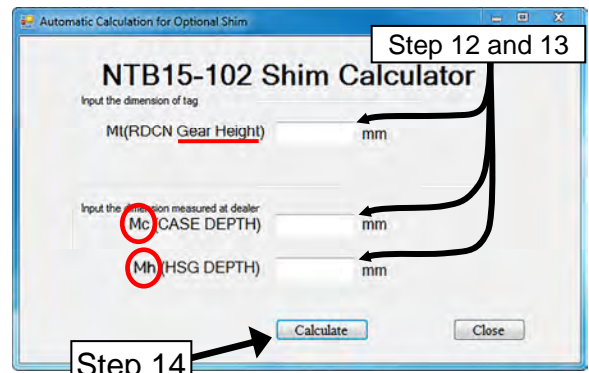

Figure 22
12. With the calculation tool displayed, input the measurement values in the correct boxes from page 13, step 9 and 10 (see Figure 22).
13. Input the height measurement of the reduction gear assembly (see Figure 22).
14. Click on **Calculate** (see Figure 22).